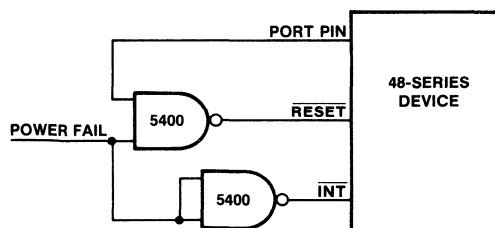

FIGURE 5-5. Driving and Holding $\overline{\text{RESET}}$ Active
Figure 5-5 illustrates how the $\overline{\text{RESET}}$ input may be driven low. When power is initially applied to the system, the Power Fail input to the NAND gate is a logic low (0) and the port pin input to the NAND gate is a logic high (1). The user program sets the port pin input to the gate to a logic low level. In the event of a power failure, the power fail input to both NAND gates becomes a logic high (1) and the $\overline{\text{INT}}$ input to the 48-Series device goes active low (0). The $\overline{\text{INT}}$ input to the device signifies a power failure and the CPU performs a power-fail routine. The power-fail routine saves the machine status and forces the port pin input to the NAND gate to a logic high. With both the power-fail and the port pin inputs at a logic 1 level, the